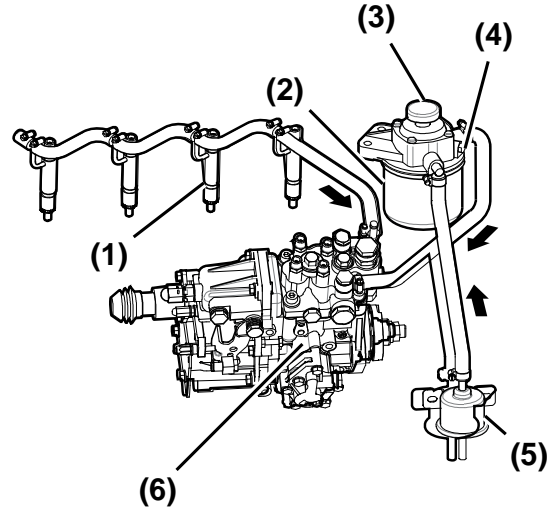

Figure 6
3. Loosen the air bleed screw **(Figure 6, (4))** 2 - 3 turns.
4. Push up and down on the priming pump **(Figure 6, (3))** to release air out of the air bleed screw.